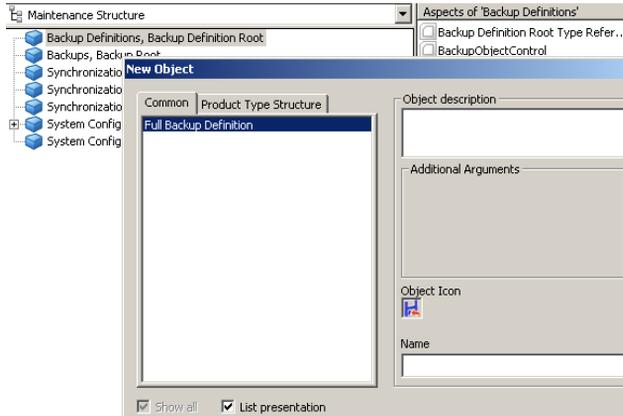

Figure 41. Basic History Backup Object
2. Create a new Basic History Backup object. See example in Figure 41 below.